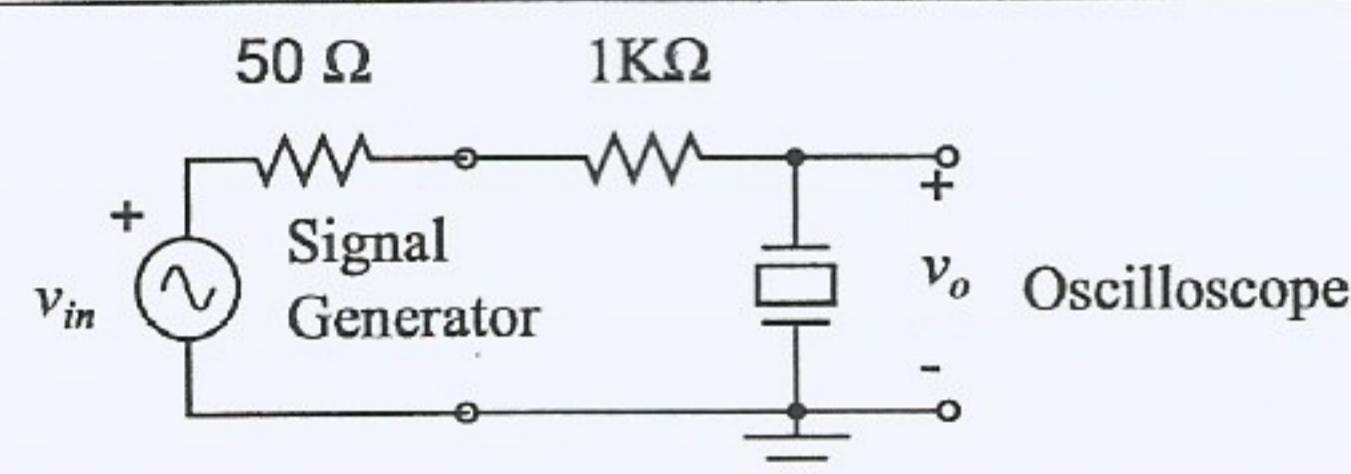

Figure 1: Quartz crystal measurement setup.
- We measure f_s and Q of both crystals in this exercise and then characterize the relevant crystal parameters. The measurement setup is given in Fig. 1.